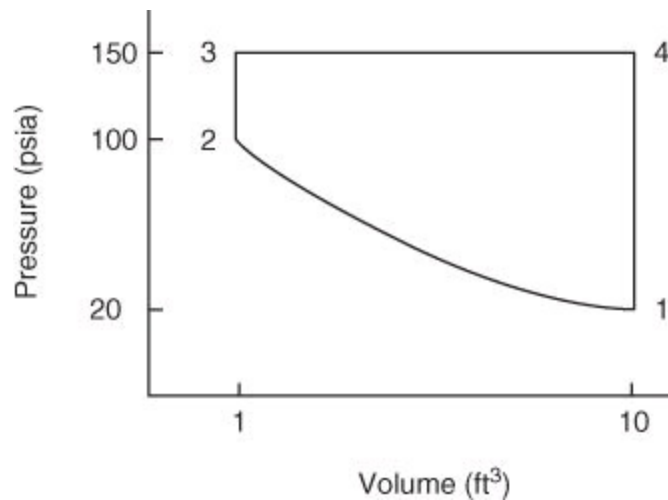

Figure SAT9.2.2P2
2. Nitrogen gas goes through four ideal process stages as detailed in Figure SAT9.2.2P2. Calculate the work done by the gas on each stage in British thermal units.